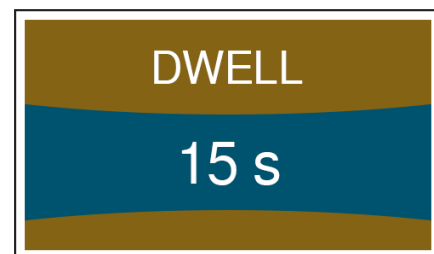

Fig. 44 - Dwell Screen
7. Displays DWELL during dwell state and time remaining in seconds (see Fig. 44).